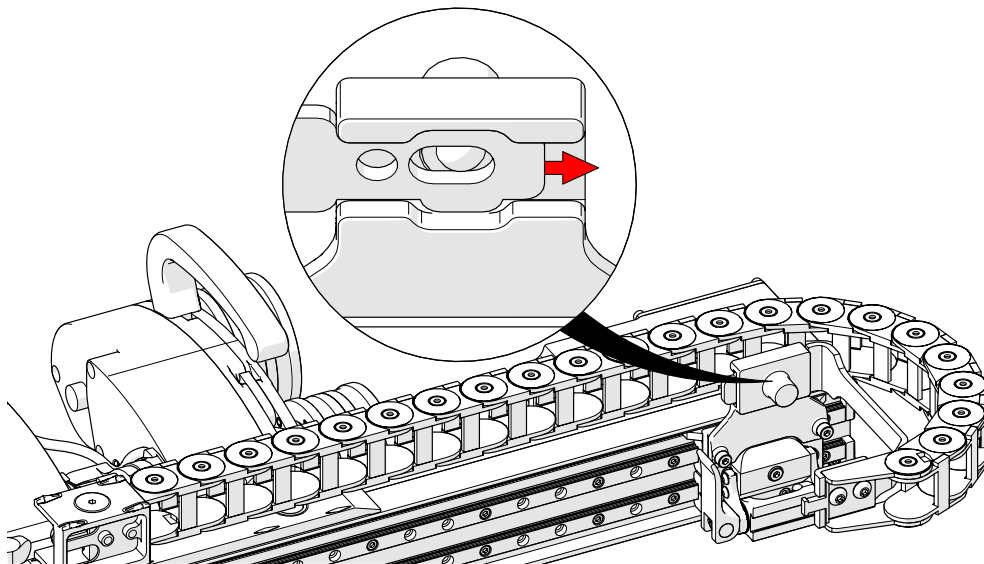

Fig. 109 - Slide bracket attaching to carriage
3. Slide the cable tray bracket until it locks in place (Fig. 109).